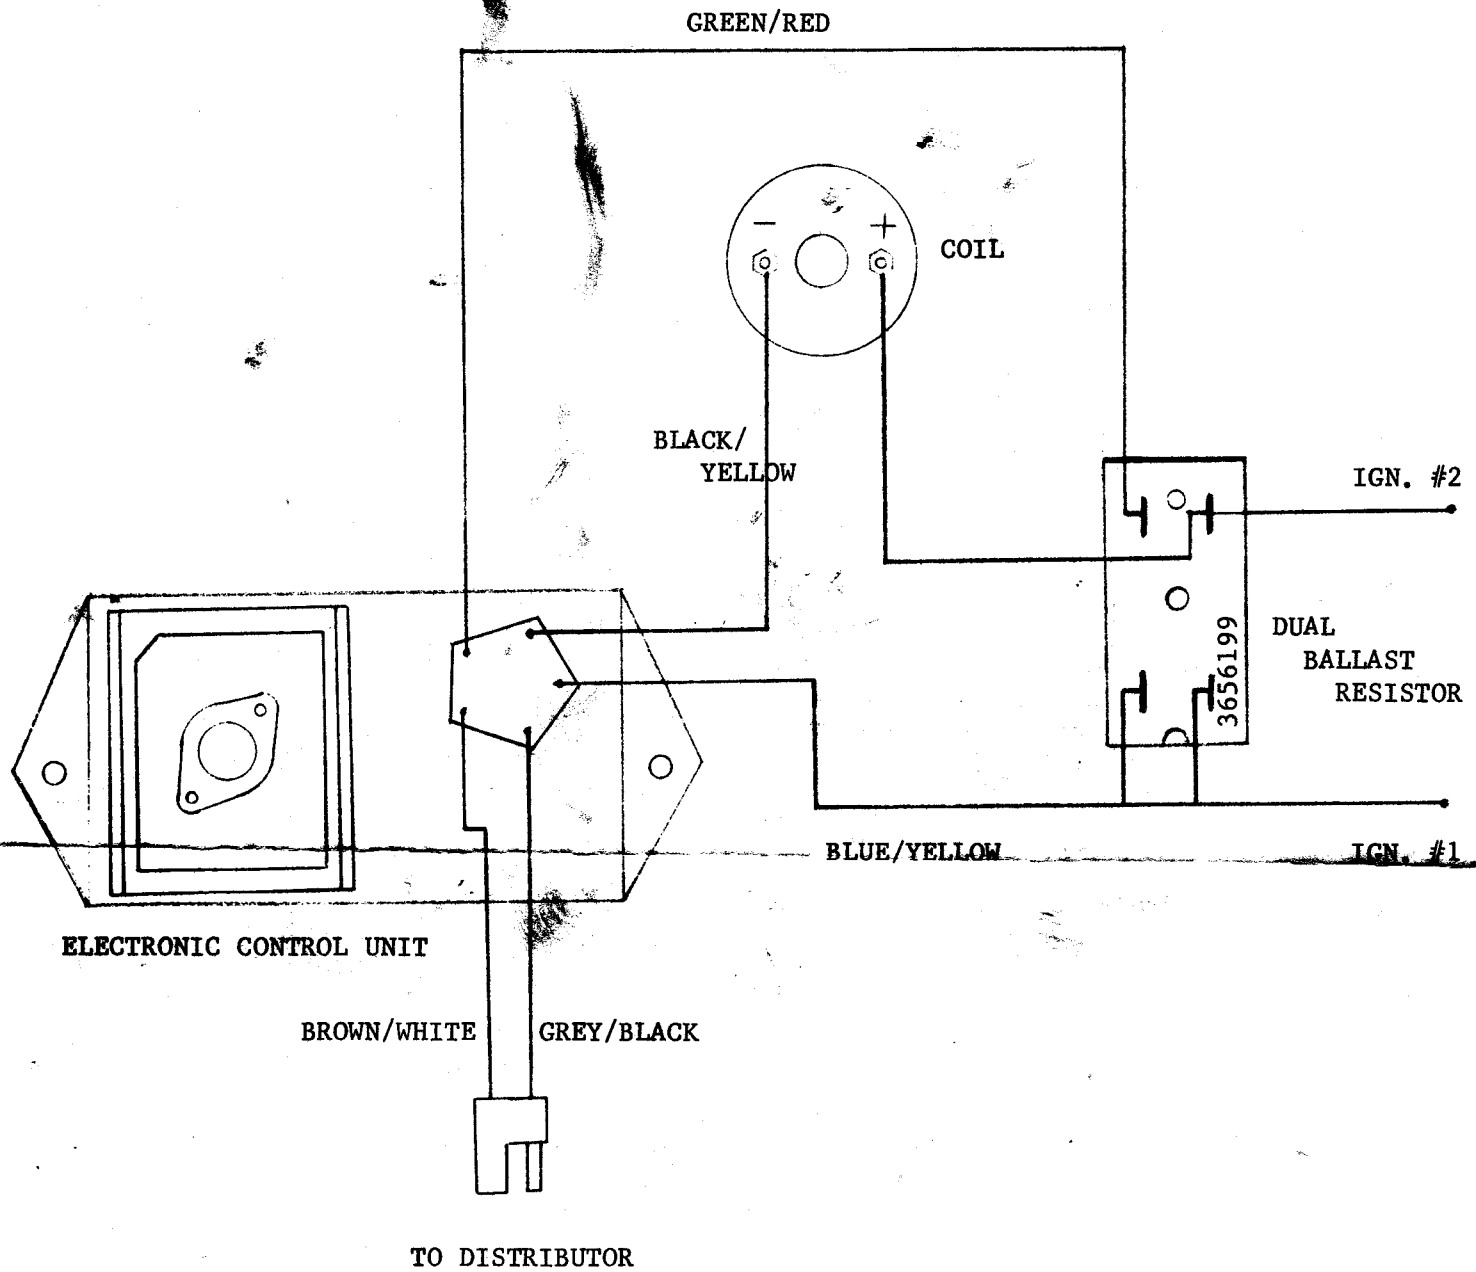

FIGURE 1
13. Be sure terminal marked Ign. #2 (Figure 1, Page 3) receives battery voltage when ignition switch is in "START" position only.
Be sure terminal marked Ign. #1 (Figure 1, Page 3) receives battery voltage when ignition switch is in "ON" position.